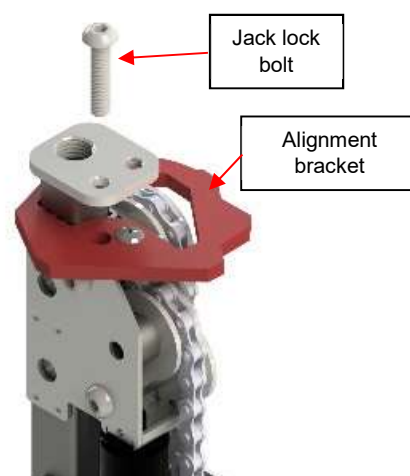

Figure 60
17) Once all drive shafts have been installed, the jack lock bolts located at the top of the non-motor-side jacks can safely be removed. Remove the Allen M8 x 50 mm bolts and **keep them for future use.** (Figure 60)